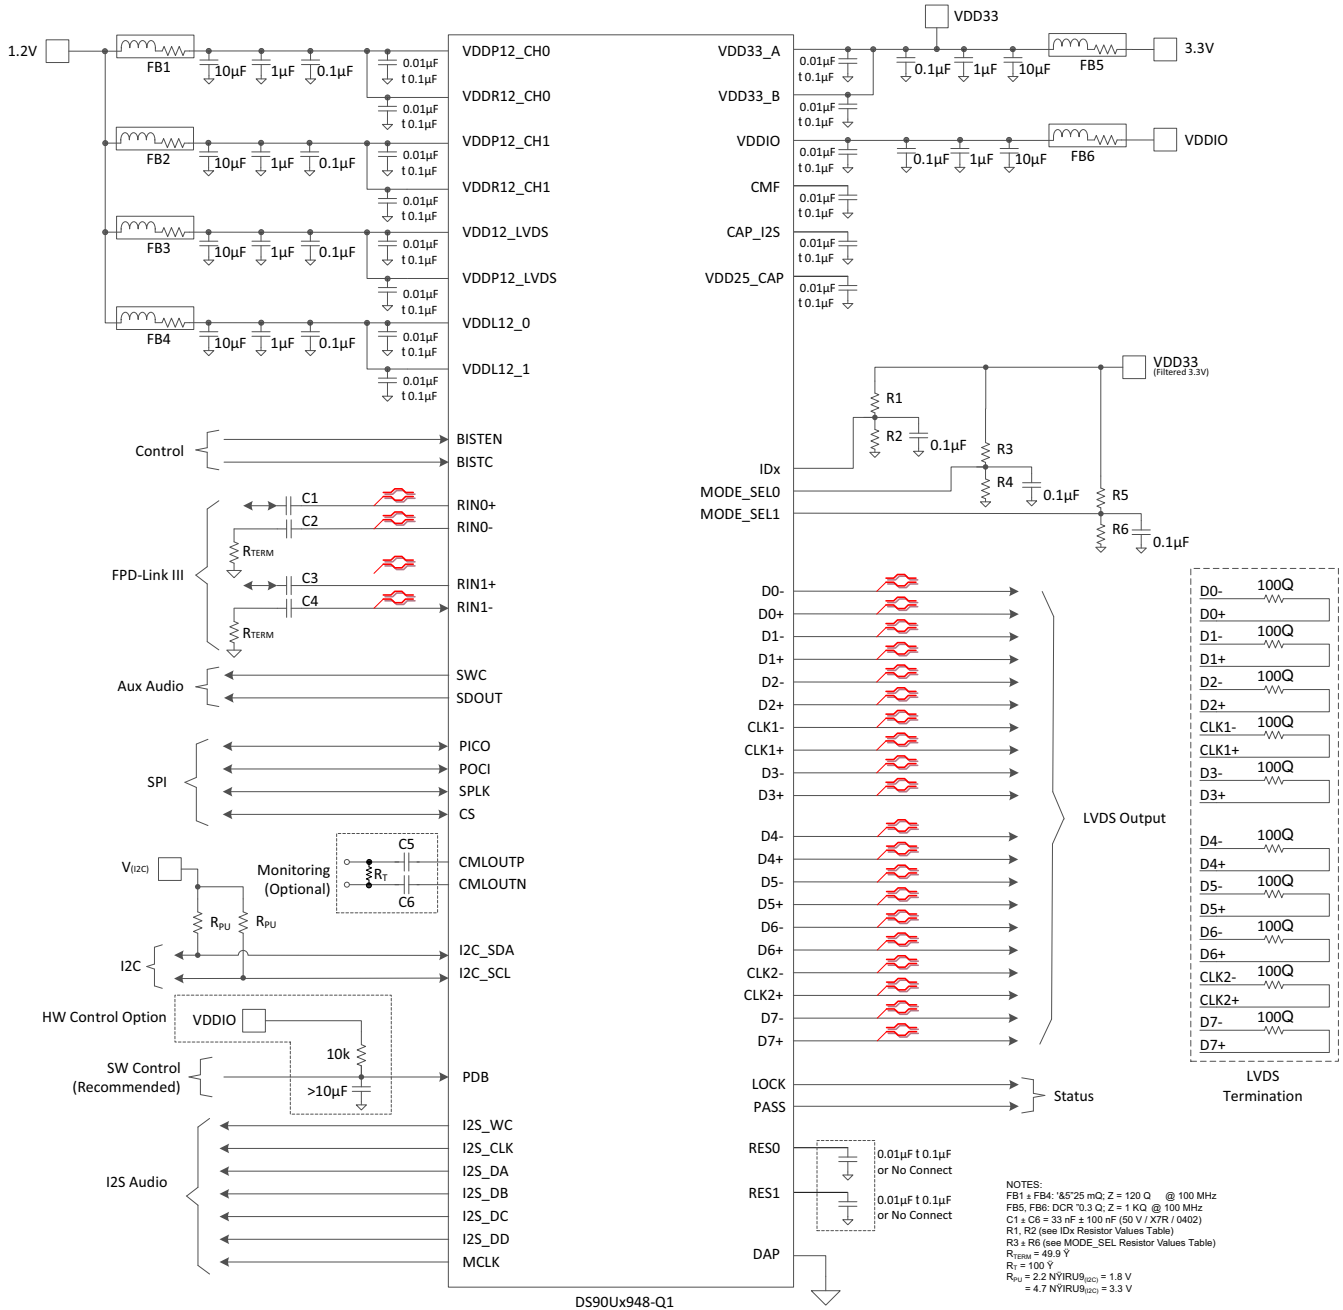

Figure 8-1. Typical Connection Diagram (Coax)
Bypass capacitors must be placed near the power supply pins. At a minimum, use four (4) 10-μF capacitors for local device bypassing. Ferrite beads are placed on the two sets of supply pins (VDD33 and VDDIO) for effective noise suppression. The interface to the graphics source is LVDS. The VDDIO pins may be connected to 3.3 V or 1.8 V. A capacitor and resistor are placed on the PDB pin to delay the enabling of the device until power is stable. See Figure 8-1 for a typical STP connection diagram and Figure 8-2 for a typical coax connection diagram.